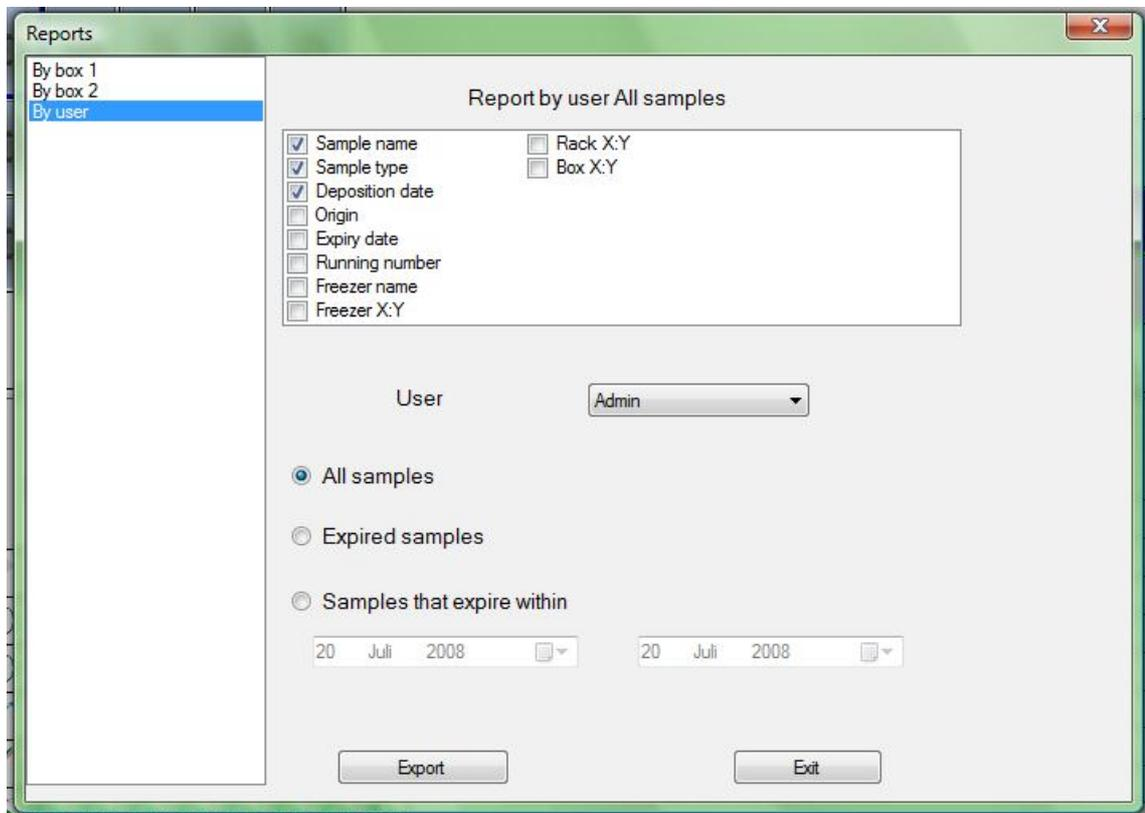

Figure 26. Report by user dialog
- Report **By user** shows samples that belong to a selected user. To generate this type of report select **By user** in the list of reports. The right part of the dialog box contains the list of sample features that have to be listed in the report. This list can be used as described above. The user can be selected from the drop-down list. One can define whether all samples, expired samples or samples that will expire between certain days will be displayed (see Figure 26).